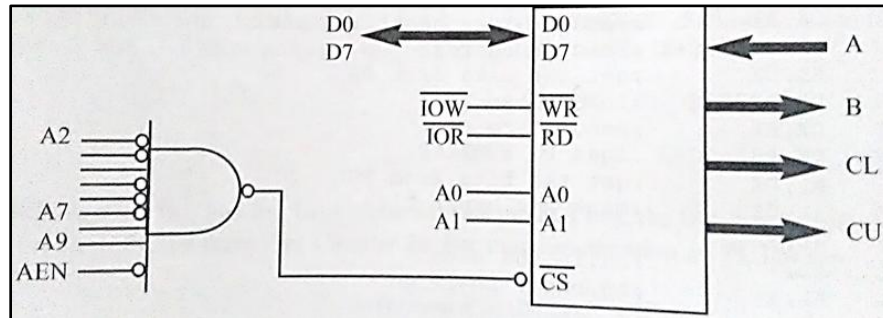

Fig. 7 Figure for example 4
**Example 4:** 8255 shown in Fig. 7 is configured as: PA –I/P; PB & PC as O/P. Find control word, find port addresses of PA, PB, PC & CWR. Also Program the ports to input data from PA & send it to PB & PC.
Table 3b Computation of Port addresses from Fig. 7